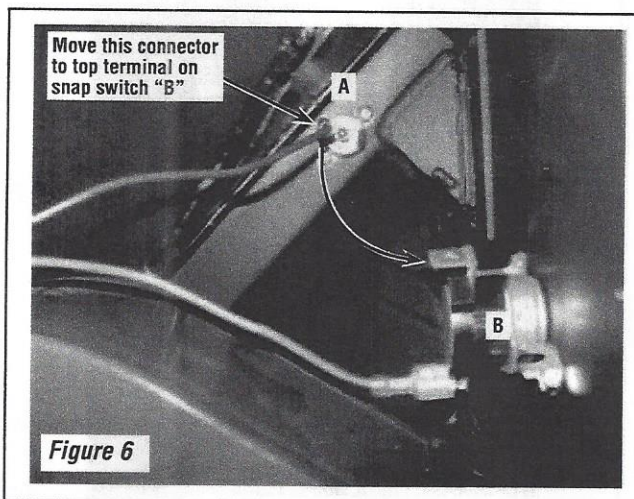

Figure 6
- 3) As shown in **Figure 6**, remove the remaining wire from snap switch "A" and reconnect it to the open terminal on snap switch "B".